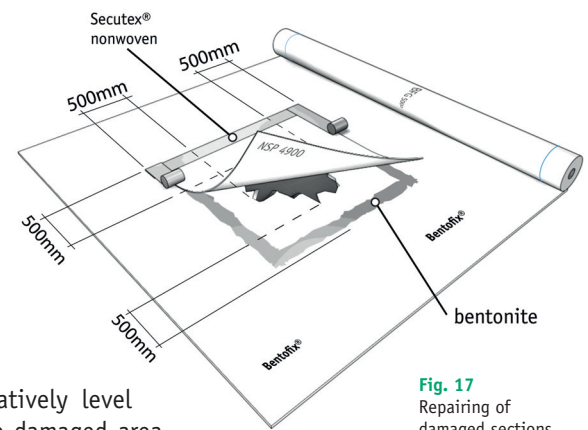

Fig. 17
21.2 On relatively level surfaces, the damaged area should be covered with a separate piece of Bentofix® GCL extending at least 500mm beyond the damaged area in every direction (fig. 17).